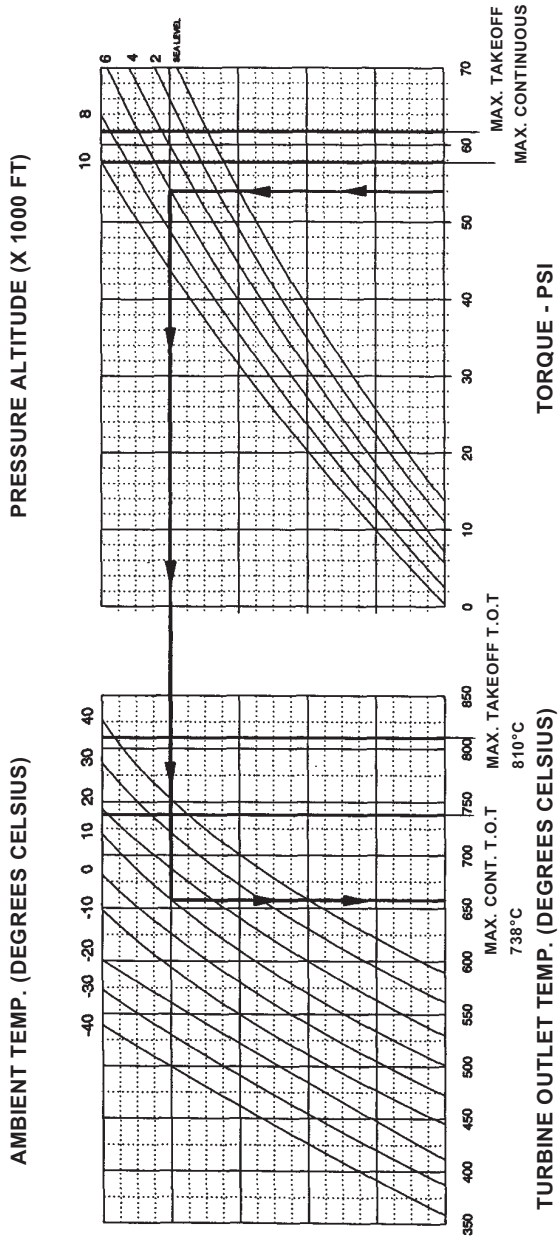

Figure 5-7. Power Check Chart - Rolls Royce 250-C20W Engine
- The power check chart (Fig. 5-7) shows the relationship of engine torque and turbine outlet temperature, at various conditions of pressure altitude and OAT for a Rolls Royce 250-C20W engine producing specification power as installed in the 330 helicopter. The primary purpose of this chart is for use as an engine performance trending tool to aid in determining if the engine is producing specification power, or if engine power deterioration has occurred.
- • Figure 5-7, Power Check Chart valid for external plenum inlet screen only.
1. Enter bottom right of chart (Fig. 5-7) at 54 psi torque. Move up along 54 psi torque line to 6000 foot pressure altitude curve, move left to 10°C OAT curve, then move down and read specification TOT of 660°C.